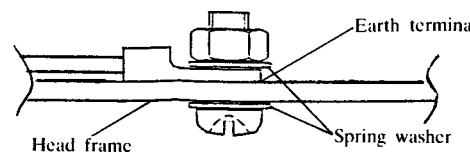

Fig. 72-2
(1) Set the bush on the AC power cord and while holding the bush with the pliers, put it on the Head frame.
(2) Connect the connector P1 with the main P.C.B. and push in the Power switch.
(3) Fix the Earth terminal to the Head frame. (Refer to Fig. 72-2)